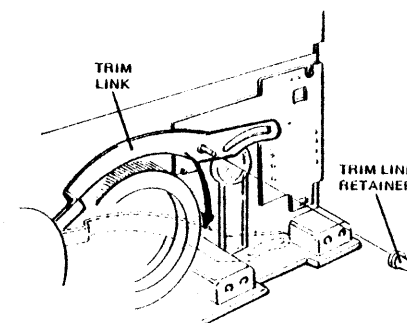

FIGURE 4-37
3. Push trim link back, and put back trim link retainer (see Figure 4-37).
3. Push trim link aside (see Figure 4-37).